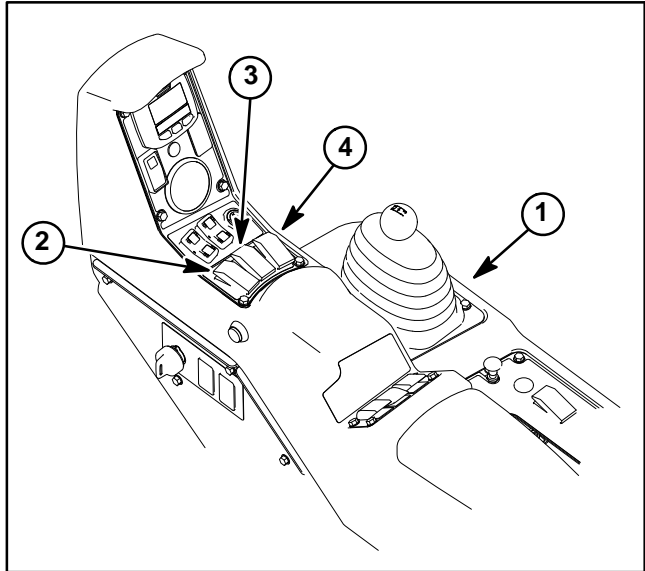

Figure 44
Three (3) identical boom spray switches are used on the Multi Pro 1750 to turn the spray valve for the individual boom sections ON or OFF. The boom switches are located on the control console (Fig. 44).